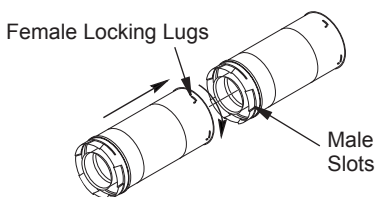

Figure 8 - Vent Pipe Connections
Twist-Lock Procedure: Female ends of pipes have locking lugs (indentations). These lugs will slide straight into matching slots on male ends of adjacent pipes. Push pipe sections together and twist one section clockwise approximately one-quarter turn until sections are fully locked (see Figure 8). *Note: Horizontal runs of vent must be supported every three feet. Use wall straps for this purpose.*
2. Assemble the desired lengths of pipe and elbows necessary to reach from fireplace flue up through firestop. Be sure all pipe and elbow connections are fully twist-locked (see Figure 8, page 10).